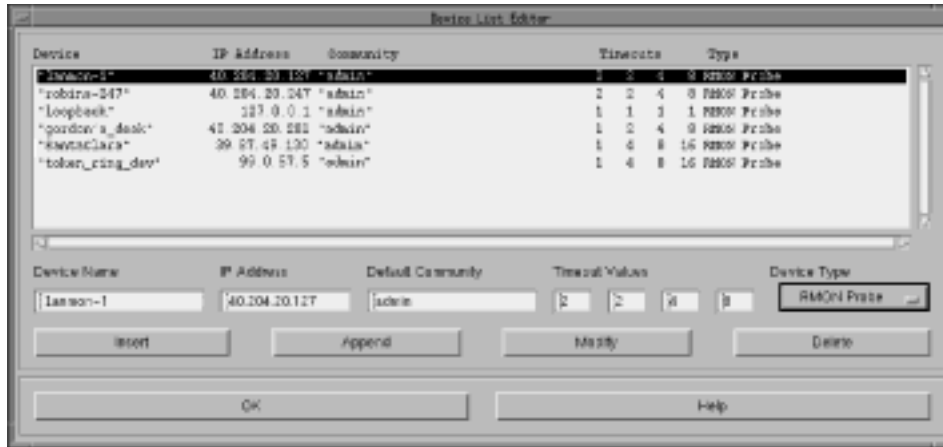

Figure 3. Device List Editor
1. Click **Edit Device List** to open the Device List Editor, shown in Figure 3 on page 10.